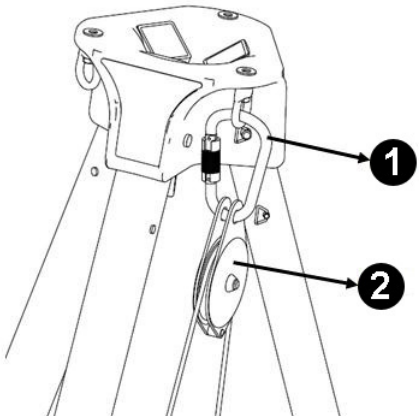

Fig. 4
- Hang carabiner and pulley to tripod head anchors on the side. See Fig. 4. The winch snaphook must be hung towards the inside of the tripod.